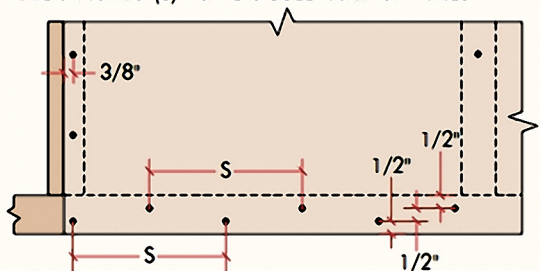

Figure 6: Fastening Edges and Ends
- Fasteners shall be placed 3/8" away from panel edges when fastening along the long axis (see Figure 6).
- c. Stagger the fasteners in one row from those in the adjacent row by 50% of the spacing (S) used